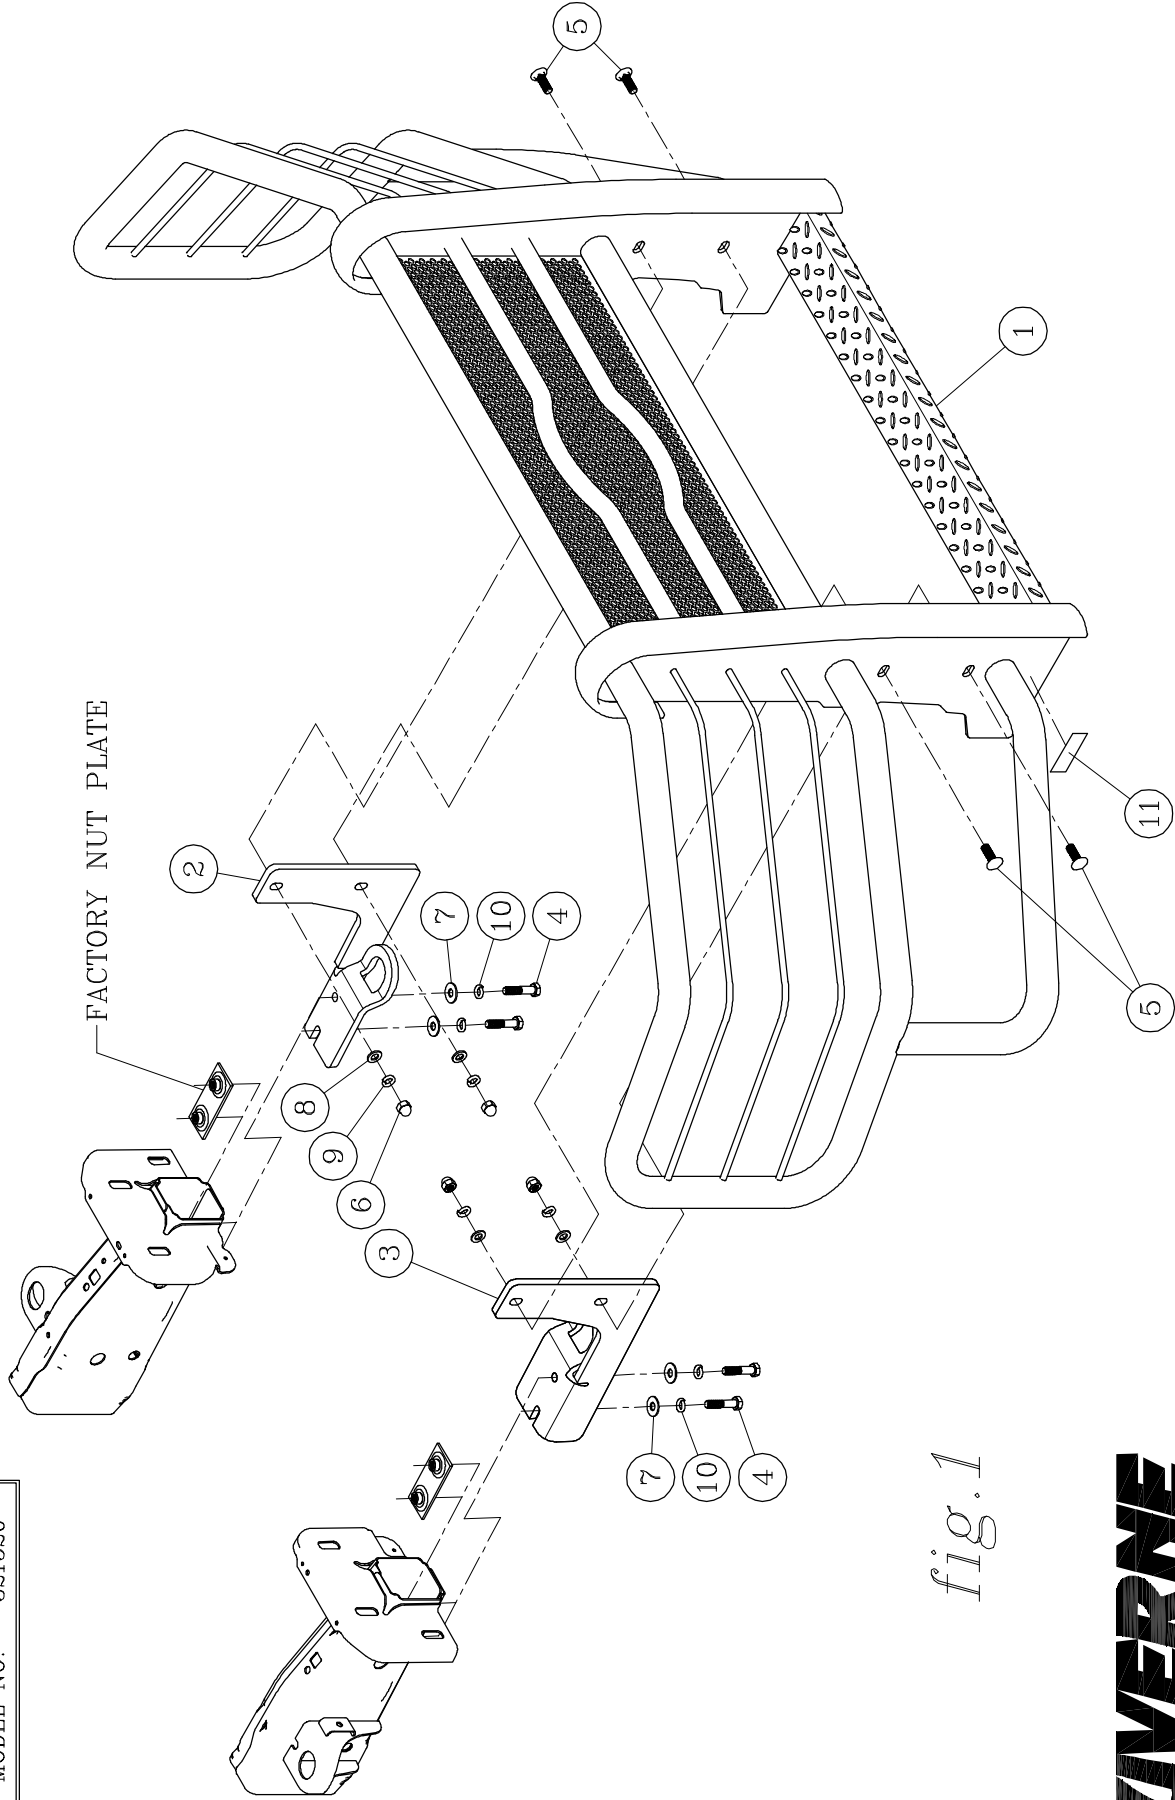

fig. 1
5. INSTALL THE RIGHT HAND AND LEFT HAND MOUNTING BRACKETS (ITEM #2 & #3) USING TWO M12 X 1.75 X 55mm HEX HEAD BOLTS (ITEM #4), TWO 7/16" FLAT WASHERS (ITEM #7) AND TWO 1/2" LOCK WASHERS (ITEM #10), IN EACH BRACKET AS SHOWN IN *fig. 1*. SNUG UP THE BOLTS, BUT STILL ALLOW THE BRACKETS TO MOVE AT THIS TIME.